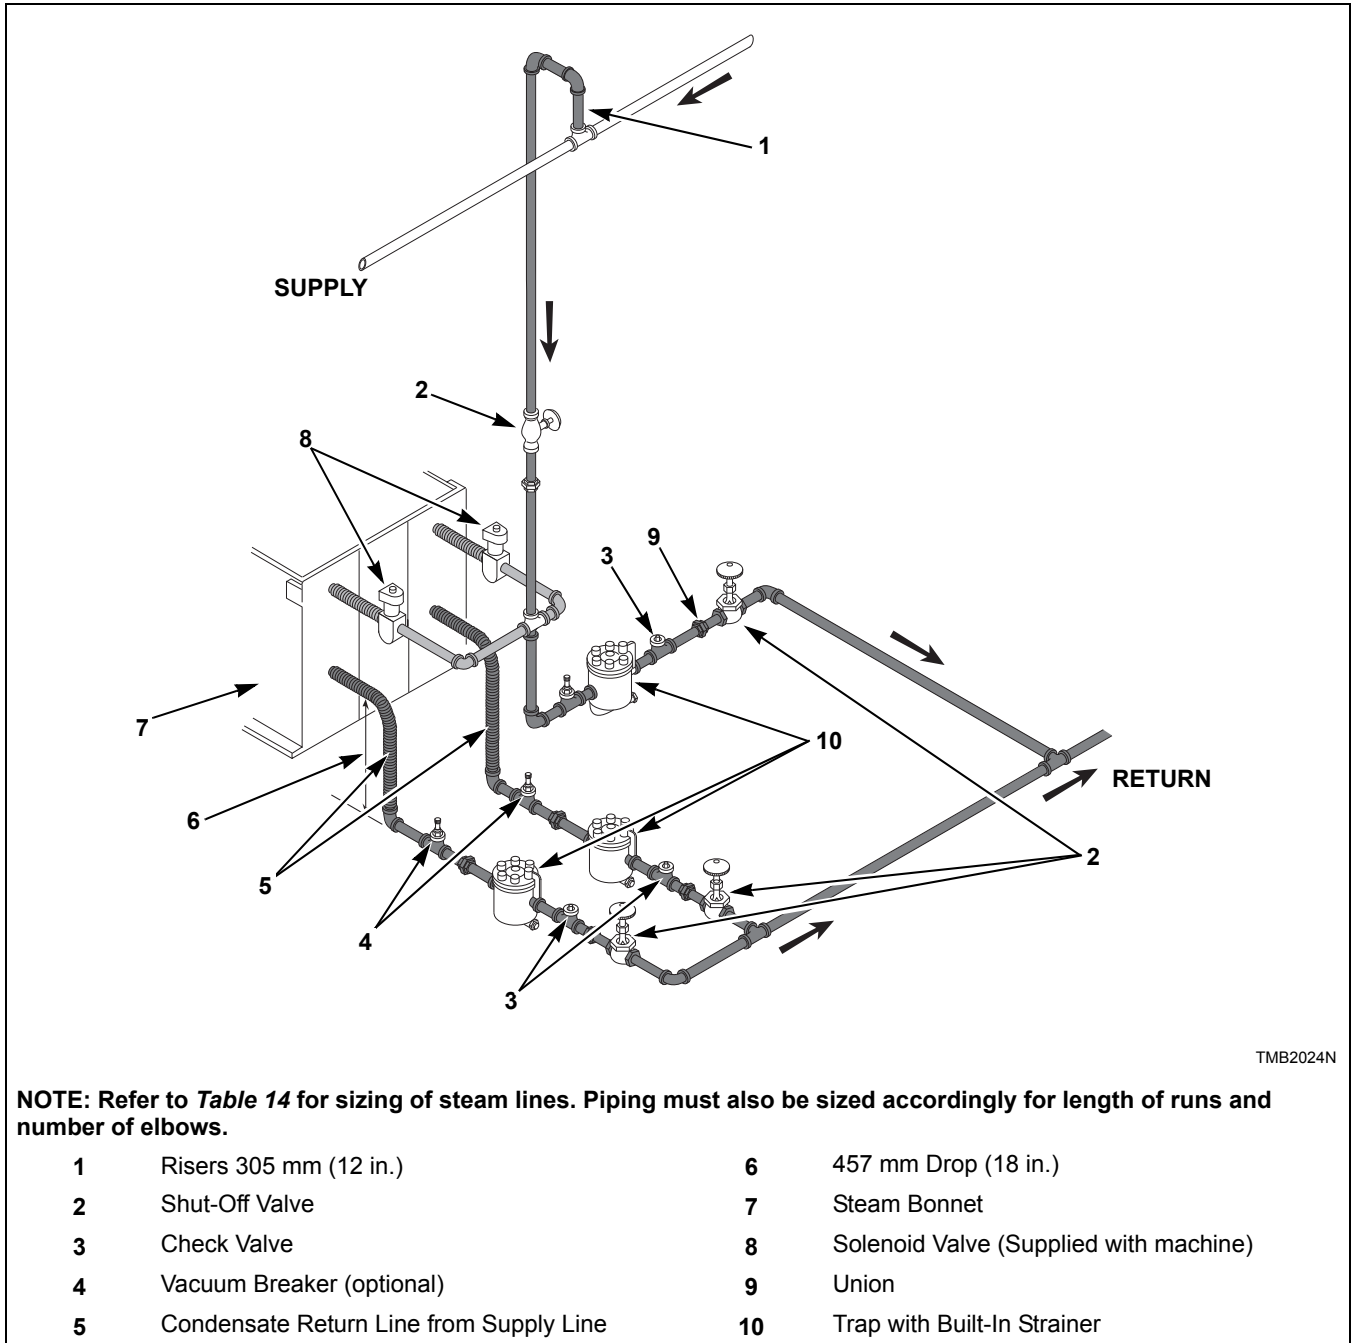

Figure 20
- Refer to *Figure 19* and *Figure 20* for proper steam pipe configurations.
The steam trap must be installed and the coil outlet connections must be connected to the condensate return lines. The following steps outline the procedure for installing the steam trap and connecting the condensate return lines. Refer to *Figure 19* and *Figure 20* for typical installations.